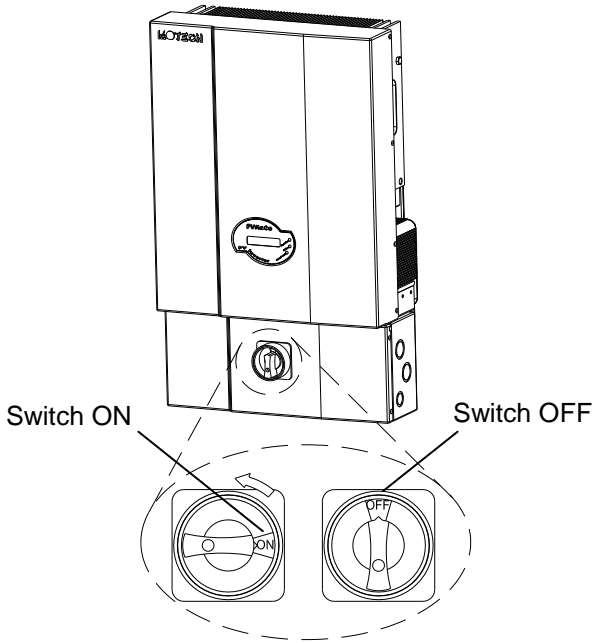

*Fig 2.2.4 Hook the Inverter on the mounting bracket and then fasten the screw*
3. Once the mounting bracket is fastened to the wall, the inverter can be mounted and fastened on the mounting bracket. Hook the inverter on the mounting bracket flanges and slide down carefully to lock it in place. Install the screws through the holes as shown in figure 2.2.4 below, which are used to fasten both inverter and the wiring box together to the mounting bracket.